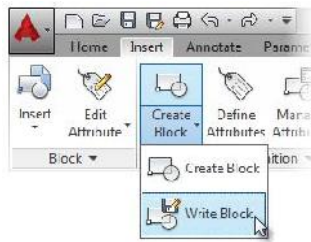

FIGURE 7.57: Starting the Write Block (WBLOCK) command from the Ribbon
2. Click the Create Block > Write Block tool on the Insert tab > Block Definition panel to start the WBLOCK command, as shown in Figure 7.57.